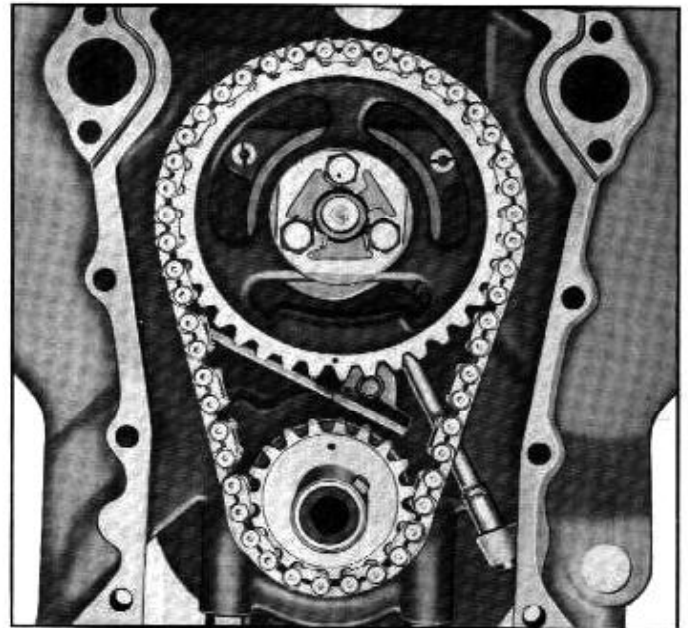

Fig. 6C-150—Alignment of Timing Marks
24. Holding the camshaft sprocket and timing chain as shown in figure 6C-149, position chain around crankshaft sprocket and install camshaft sprocket on camshaft. Install new lock plate and tighten three bolts to 15-18 lbs. ft. torque. Bend lock tabs against flat side of bolt heads. **NOTE:** Timing marks must be on crankshaft vertical center line as shown in figure 6C-150. If these marks are not positioned as shown, remove sprocket and reassemble correctly.